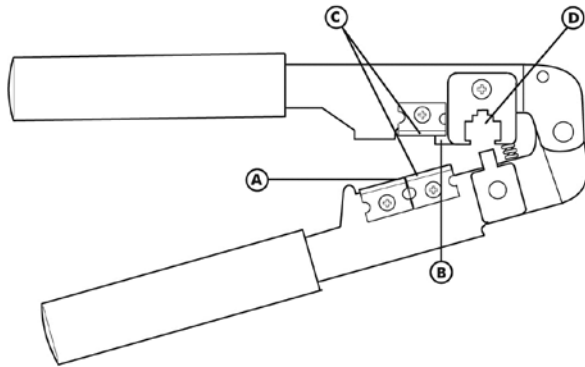

FIGURE 17: RJ-12 Modular Plug Crimping Tool
1. Using the cutter blade on the crimping tool (labeled **A** in Figure 17), cut the flat CA Cable so the cut is clean and 90 degrees to the sides of the cable.
2. Fully insert one end of the CA Cable between the stripping blades (labeled **C** in Figure 17) until the end of the cable hits the stop (labeled **B** in Figure 17).
6. Push a RJ-12 Modular Plug into the plug holder on the crimping tool (labeled **D** in Figure 17) until the release tab on the plug locks into position.